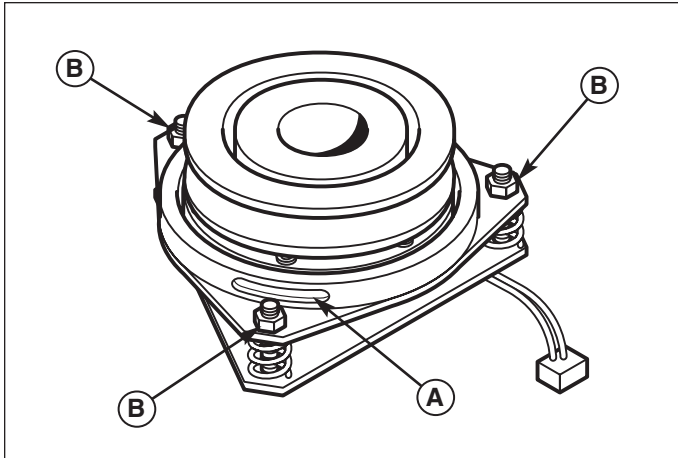

Figure 26. PTO Clutch Adjustment
2. See Figure 26. Note the position of the 3 adjustment windows (A) in the side of the brake plate and the nylock adjustment nuts (B).
4. Alternately tighten the adjustment nuts (B, Figure 26) until the rotor face and armature face just contacts the gauge.